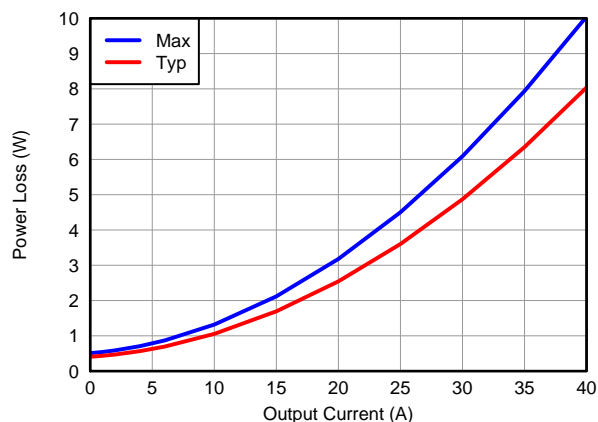

Figure 7. Power Loss vs Output Current
MOSFET centric parameters such as $R_{DS(ON)}$ and Q_{gd} are primarily needed by engineers to estimate the loss generated by the devices. In an effort to simplify the design process for engineers, Texas Instruments has provided measured power loss performance curves. Figure 7 plots the power loss of the CSD97370Q5M as a function of load current. This curve is measured by configuring and running the CSD97370Q5M as it would be in the final application (see Figure 18). The measured power loss is the CSD97370Q5M device power loss which consists of both input conversion loss and gate drive loss. Equation 1 is used to generate the power loss curve.
The power loss curve in Figure 7 is measured at the maximum recommended junction temperature of $T_J = 125^\circ\text{C}$ under isothermal test conditions.
- Typical Power Loss at 25A = 3.5W (Figure 7)